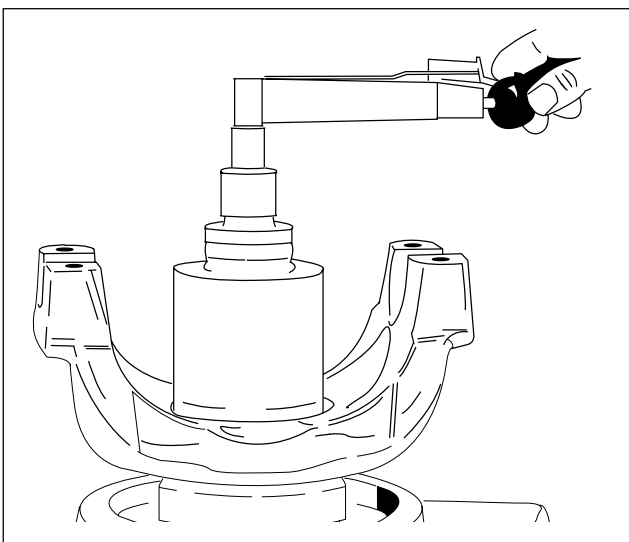

Figure 9
12. Measure torque to rotate with an inch-pound torque wrench. Torque measurements should be taken every fourth revolution and should read between 10-30 in-lbs of bearing preload. See Figure 9.